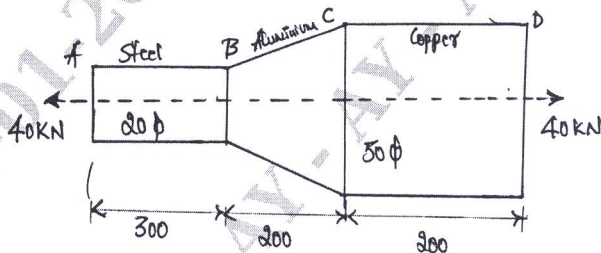

Fig.Q1(b)
b. A stepped bar is subjected to an external loading as shown in Fig.Q1(b). Calculate the change in the length of bar. Take  $E = 200\text{GPa}$  for steel.  $E = 70\text{GPa}$  for Aluminum and  $E = 100\text{GPa}$  for Copper. (10 Marks)